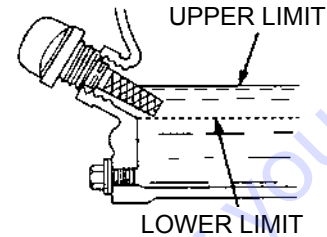

Figure 7. Engine Oil Dipstick (Oil Level)
4. If the oil level is low (Figure 7), fill to the edge of the oil filler hole with the recommended oil type (Table 5). Maximum oil capacity is 2.33 pints (1.09 liters).